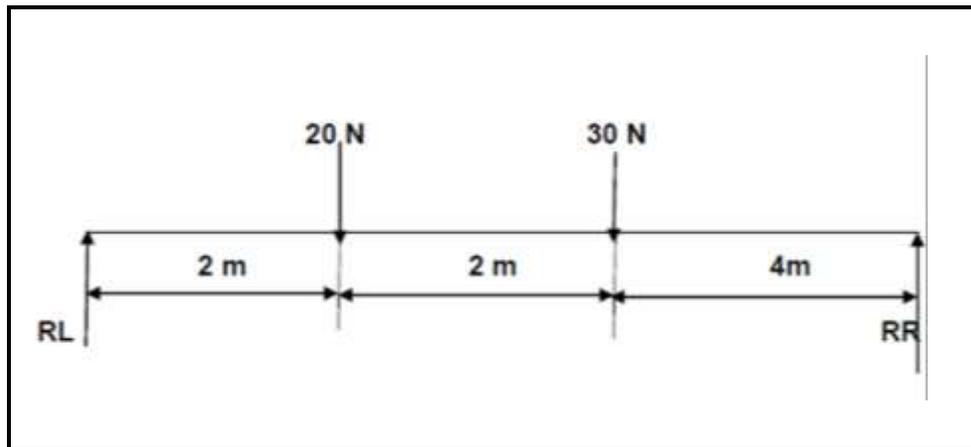

FIGURE 8.2
8.2 FIGURE 8.2 below shows a beam that is supported by two vertical supports RL and RR. Two vertical point loads, 20 N and 30 N, are exerted onto the beam over the total distance of 8 metres (m).